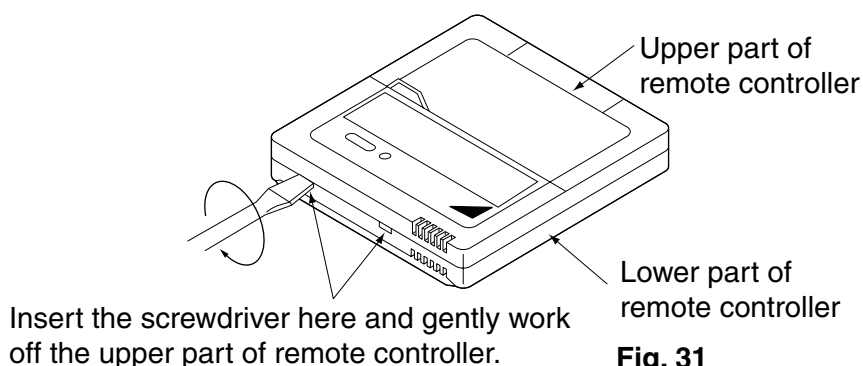

Fig. 31
(1) Insert a $\ominus$ screwdriver into the recess between the upper and lower part of remote controller and, working from the 2 positions, pry off the upper part. (The remote controller PC board is attached to the upper part of remote controller.) **(Refer to Fig. 31)**